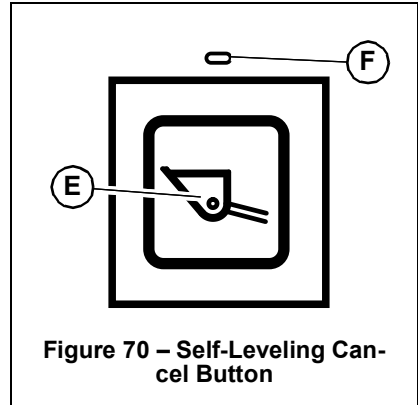

Figure 70 – Self-Leveling Cancel Button
To deactivate self-leveling, press the self-level cancel button (E, Figure 70) on the control pad. To restore self-leveling, press button (E) again.